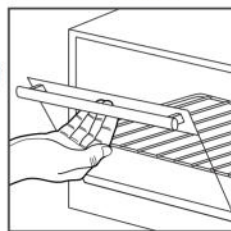

Figure 1
**NOTE:** When dehydrating or broiling, leave the door open approximately 3 inches from the closed position (See Figure 1).